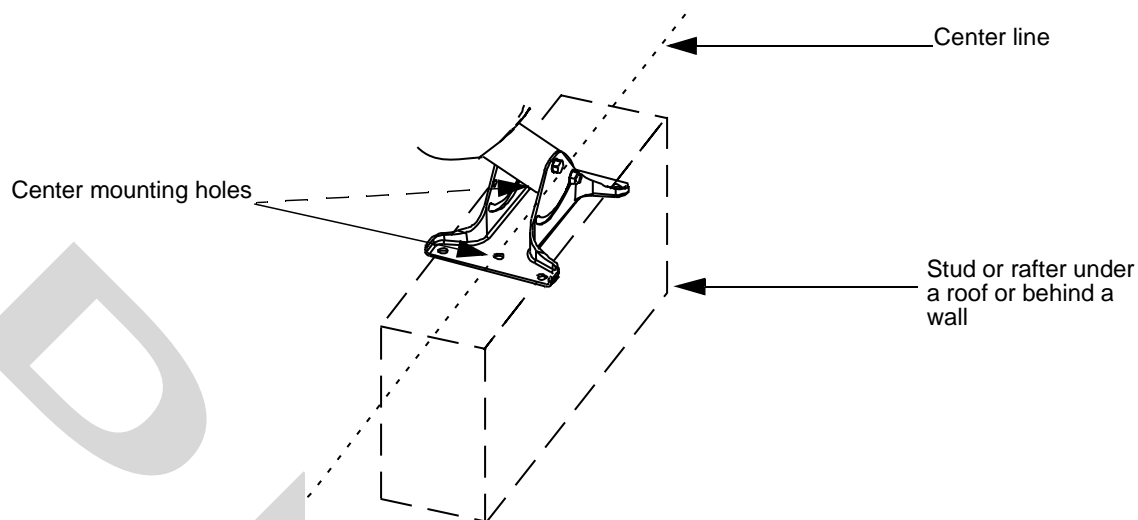

Figure 2. Mast Foot Mounting
- b) For hollow wall or roof construction, align the foot so bolts or screws through the center holes will penetrate a stud or rafter whenever possible (see Figure 2). Use two 5/16-in diameter x 1.5-in long lag screws for the center holes. When a stud or rafter cannot be found, fasten the mast foot with four 5/16-in diameter x 3-in long round head toggle bolts.